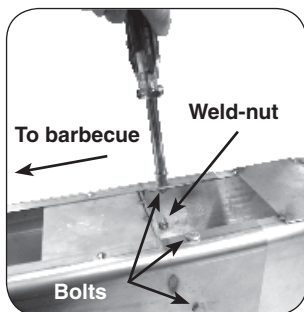

Fig. 7-3
6. From outside the joined post and extension, insert one of the 1/4 X 20"-5/8 bolts (supplied) into each of the five (5) bolt holes and tighten each using a 7/16" socket driver or wrench (see Fig. 7-3).